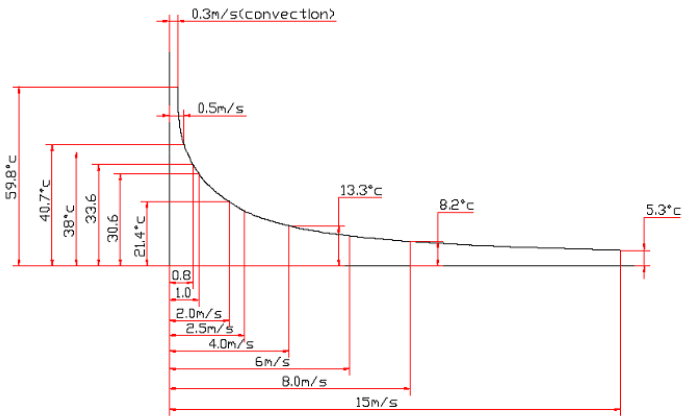

Figure 4: Air velocity vs heat sink thermal resistance
- The thermal resistance can be reduced by increasing forced air flow, see Figure 4, although the air flow can be increased and thermal resistance can be improved by fans, it also can bring the noise in same time.